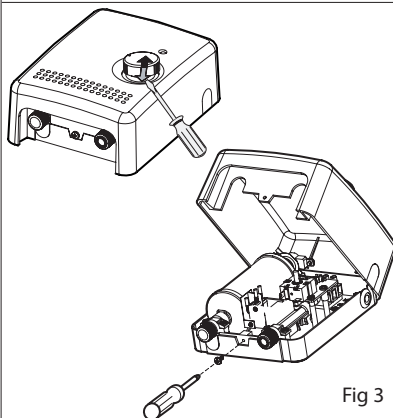

Fig 3
3. Remove plastic cover. (Fig 3)